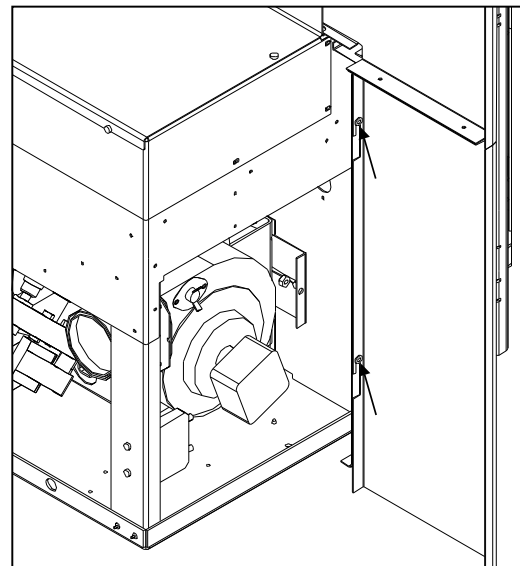

Figure 33: Installed Surround Panel
2. Place the assembled surround panel around the stove; align the slots with the screw heads. Push surround in then down to engage the surround slots on the mounting screws (see Figure 33). Make sure the top surround panel sits flat behind the stove top.